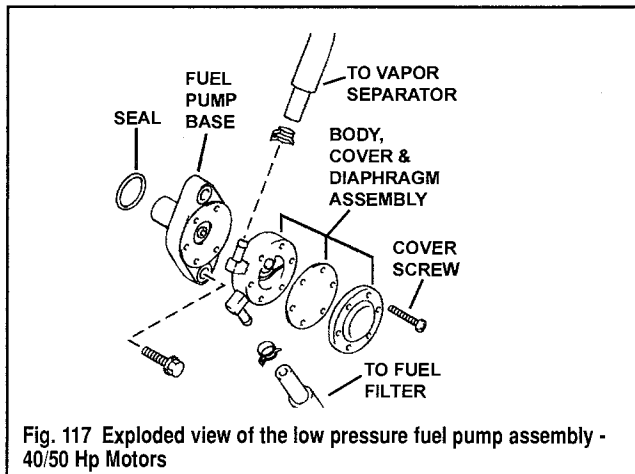

Fig. 117 Exploded view of the low pressure fuel pump assembly - 40/50 Hp Motors
◆ See Figures 117 and 118
◆ See Figure 117
- ◆ See Figures 117 and 118